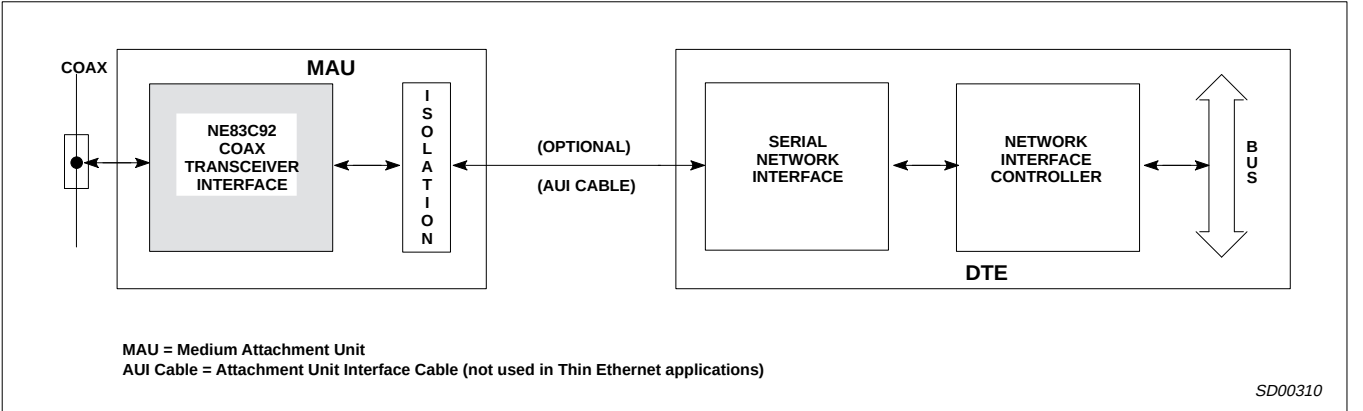

Figure 2. Interface Diagram for Ethernet/Thin Ethernet Local Area Network
2. Measured on secondary side of isolation transformer (see Figure 2). The transformer has a 1:1 turn ratio with an inductance between 30 and 100 μH at 5MHz.